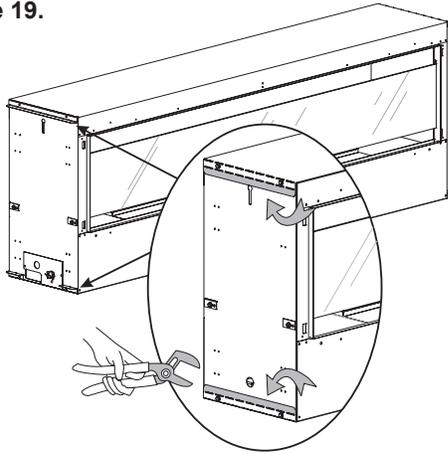

Figure 19
1. At the top and bottom of the fireplace, use pliers to bend each side standoff 90 degrees away from the cabinet. See **Figure 19**.
- 3c. Slide the outer glass and frame over the top and sides of the fireplace. See **Figure 19**.